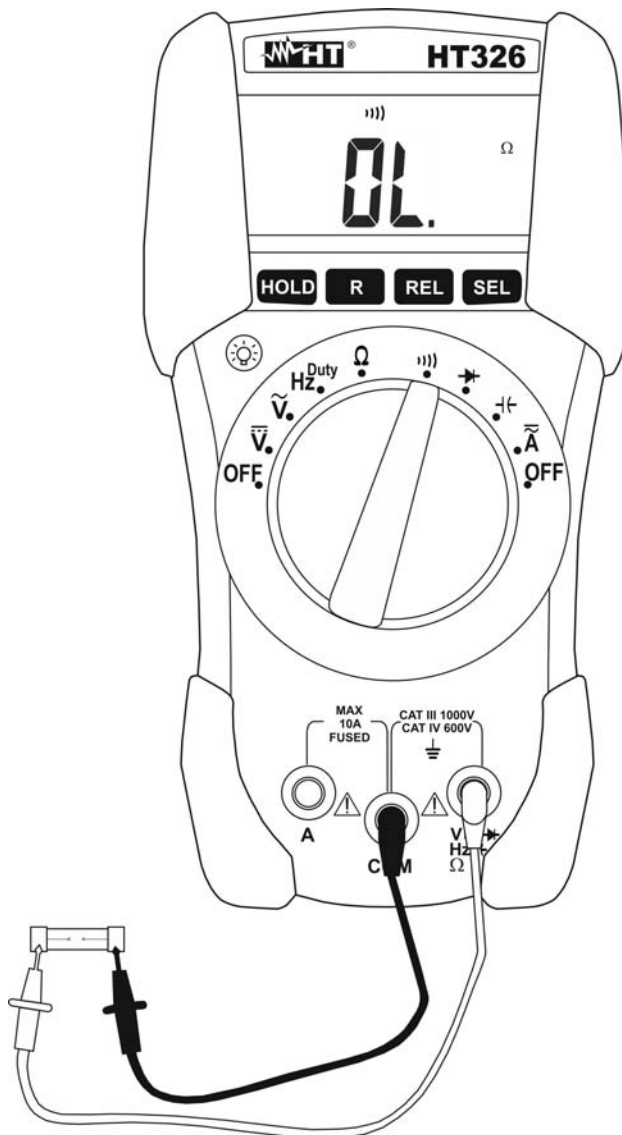

Fig. 7: Using the instrument for Continuity test
3. Connect the test leads to the circuit under test (see Fig. 7)